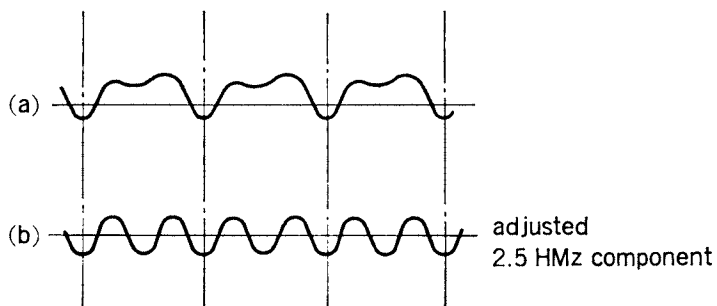

Fig. 10
6. While observing the oscilloscope waveform adjust the R354 (LIMITER BALANCE) and R365 (DEM. BALANCE) alternately to minimise the 2.5 MHz signal of which the waveform is described in Fig. 10-b below.